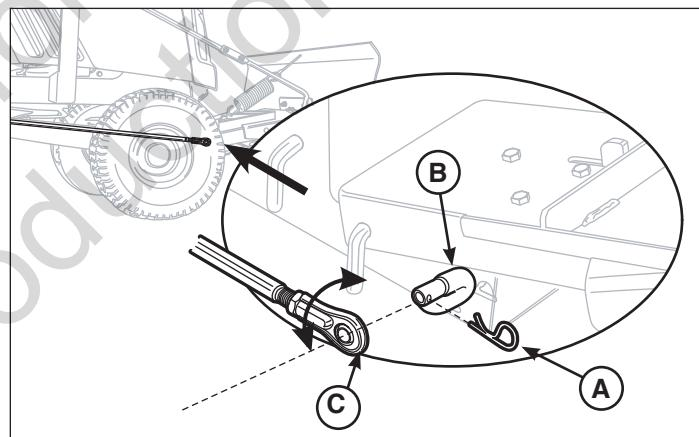

Figure 28
3. Remove hair pin (A, Figure 28) from the bell crank (B) on the lift rod assembly (C).
4. Remove the lift rod assembly (C) from the bell crank (B).
5. Loosen the ball joint lock nut (D) and rotate the ball joint either counter clockwise to lower the travel height or clockwise to increase the travel height. Tighten the lock nut (D).
6. Reinstall the lift rod assembly (C) onto the bell crank (B) and secure with the hair pin (A).